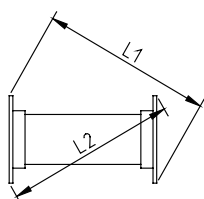

Figure 9
- The absolute value of differentials of diagonals of the rectangular duct should be $|L1-L2| \leq 3$, as shown in figure 9.